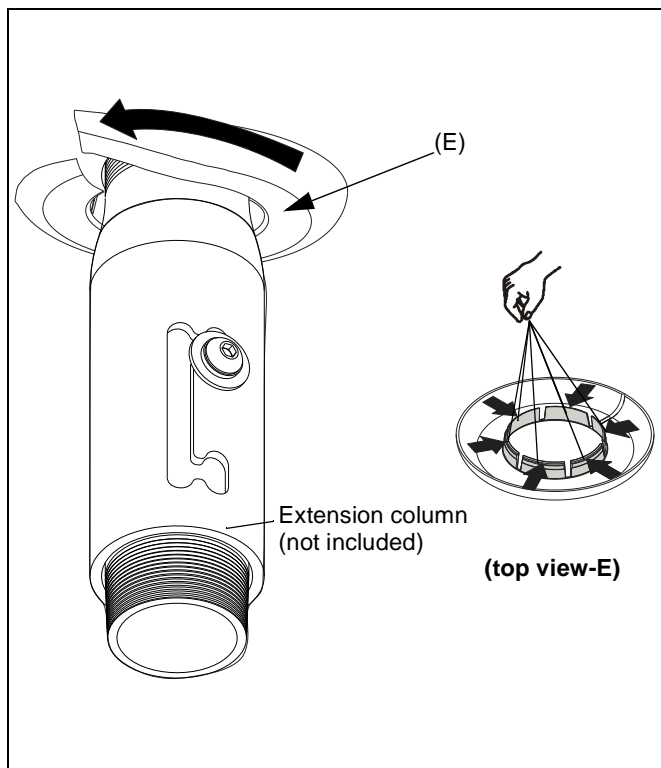

Figure 14
2. Install NPT ring (E) on extension column below ceiling tile (See Figure 14). If necessary, bend six tabs inward to secure ring to column.